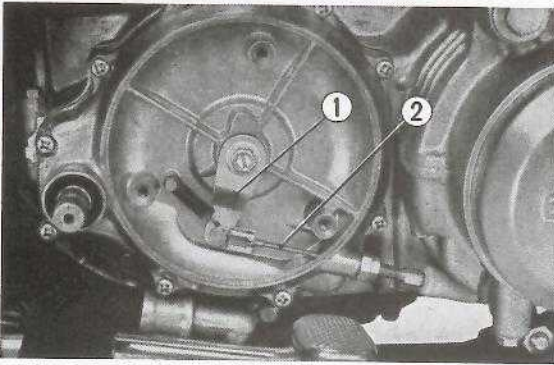

Fig. 2-3 ① Clutch lever
② Engine hanger bolt A                      ④ Engine hanger bolt C                      ⑥ 8 mm×45 bolt
8. Disconnect the clutch cable from the clutch lever. (Fig. 2-3)